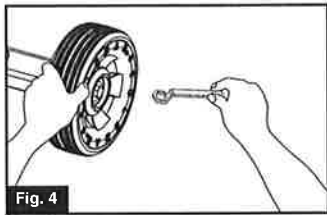

Fig. 4
- Assemble wheels to grill base. Attach each wheel to axle using one bolt and one washer. (Fig. 3, Fig. 4)